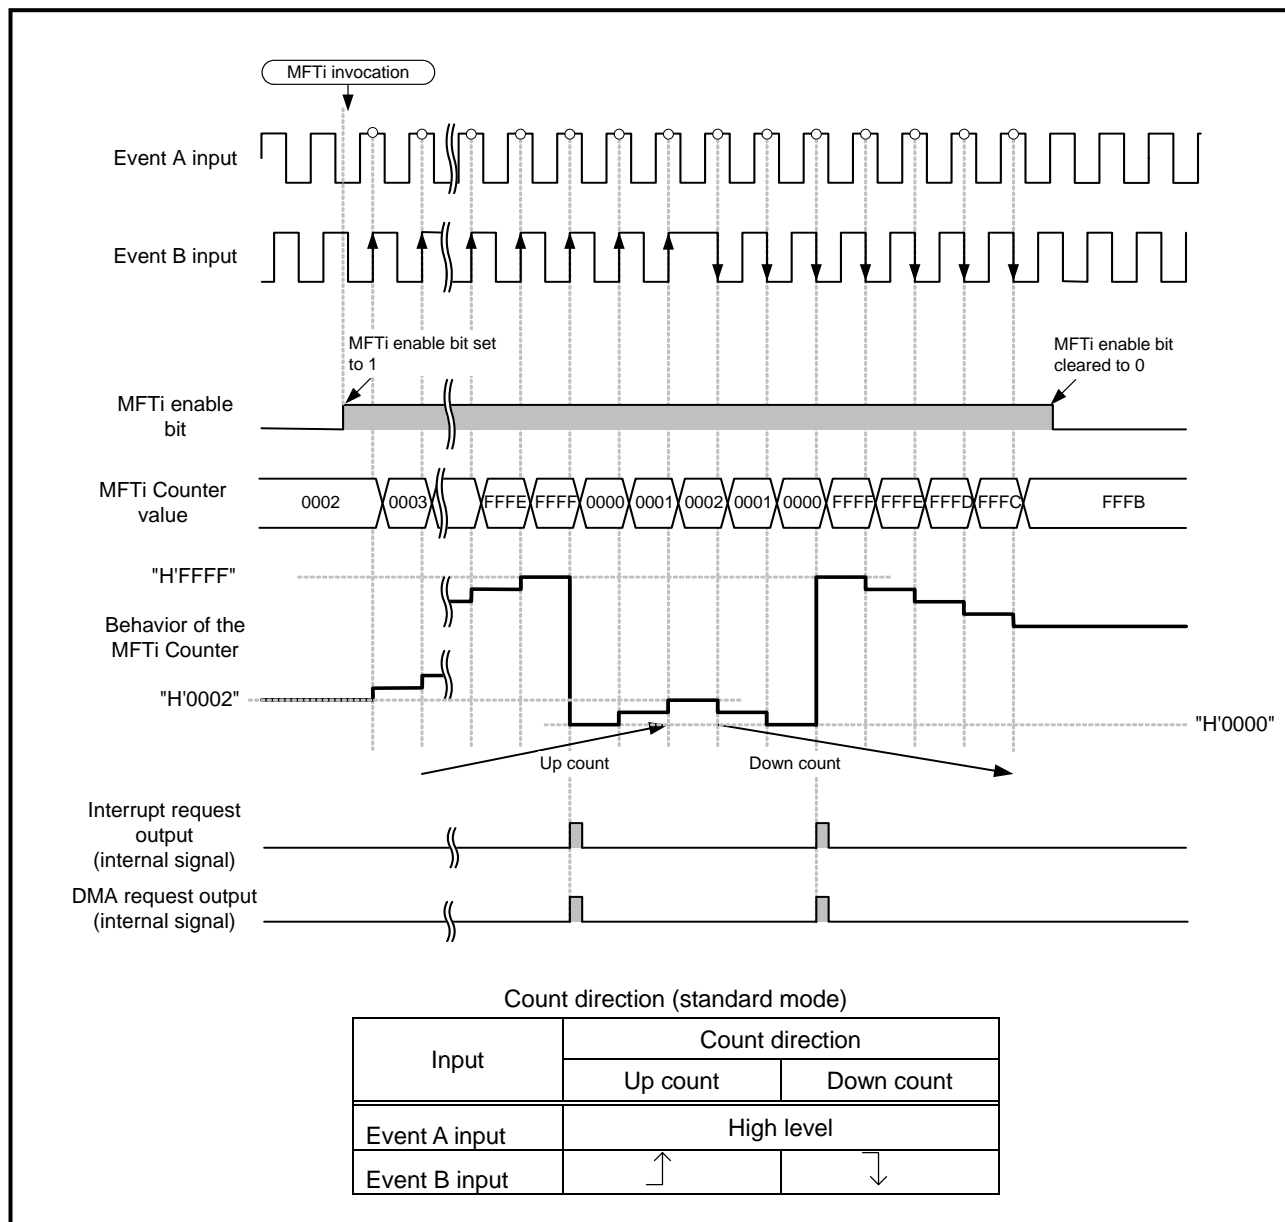
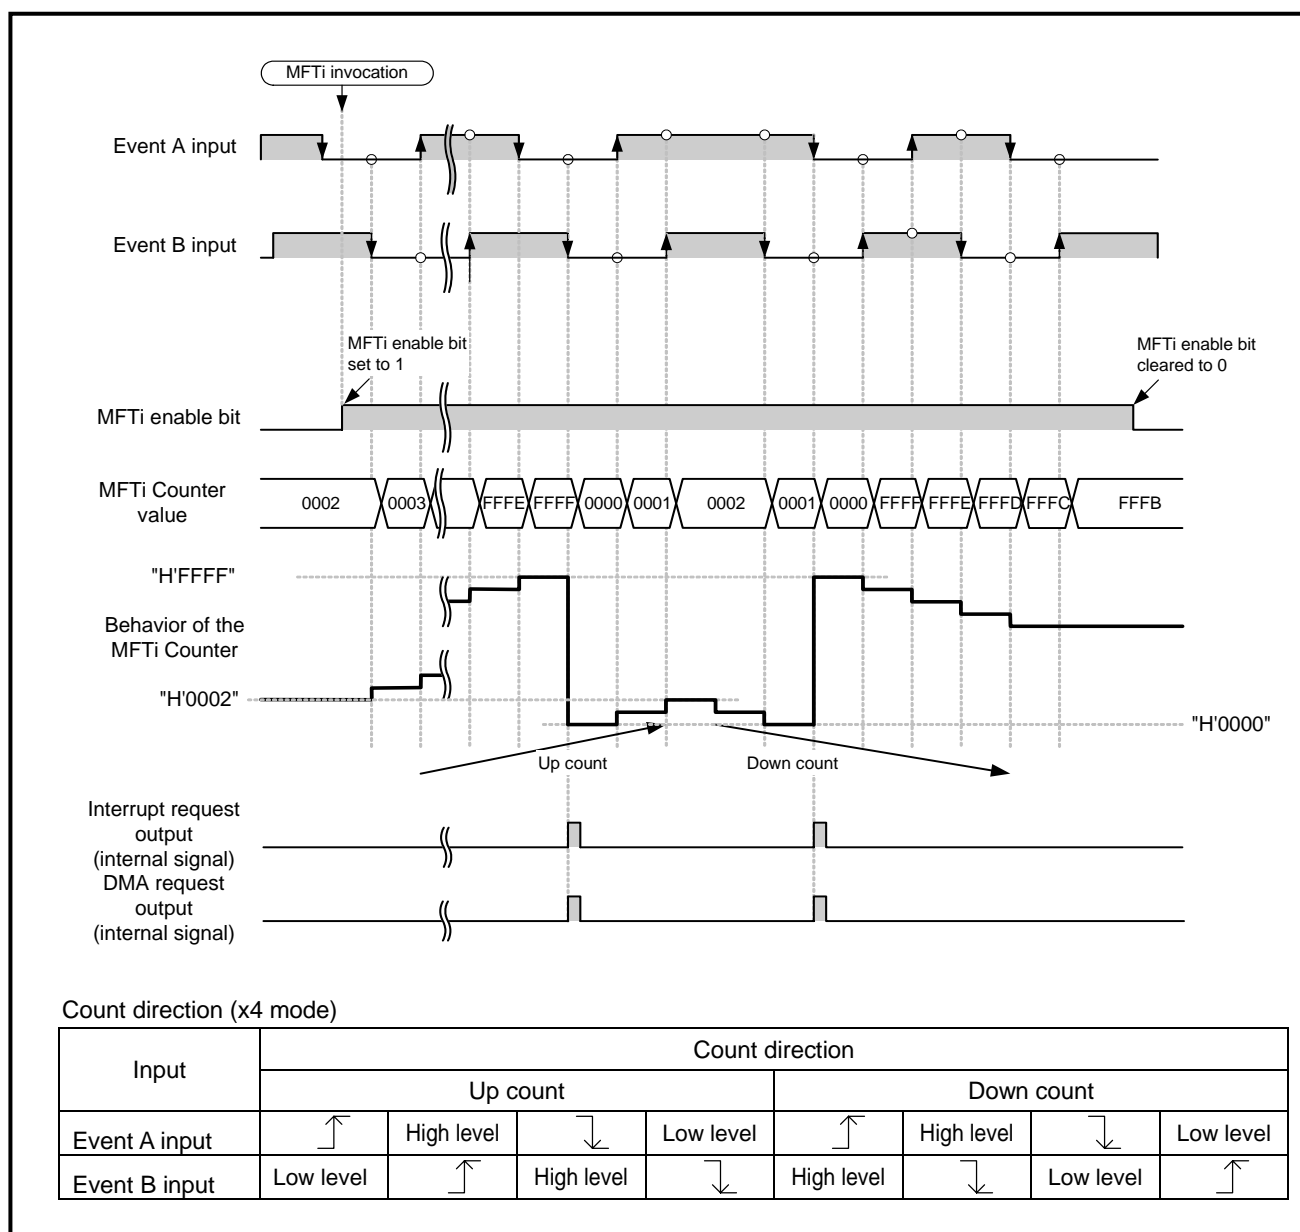

Figure 12.3.31 Example Operation Timing of MFTi when Acting as 2-Phase Event Counter (when standard mode is selected)
Figure 12.3.32 Example Operation Timing of MFTi when Acting as 2-Phase Event Counter (when x4 mode is selected)
(3) Operation of MFTi as the 2-phase event counter
Figure 12.3.31 and Figure 12.3.32 show example operation timings of MFTi when acting as the 2-phase event counter that was set in (2).
Shown in Figure 12.3.31 and Figure 12.3.32 are examples for the case when standard mode is selected (CMSEL = 0) and when x4 mode is selected (CMSEL = 1), respectively.